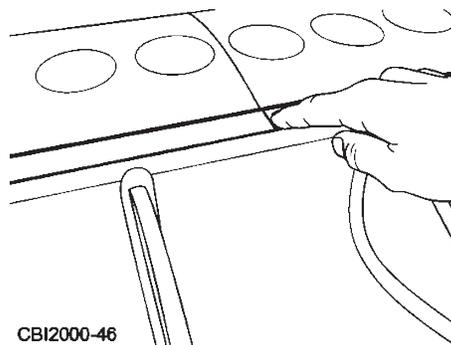

Figure 6.11 - Check tip alignment
15. Check Tip Alignment (If Applicable) - If applicable, check the tip alignment with the adjacent knife sections (Figure 6.11) to confirm proper seating and alignment. If the sections do not line up, repeat steps 4 through 10.